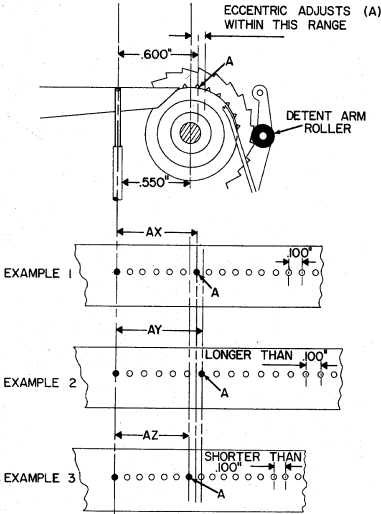

Figure 14
The proper setting gives a distance of .600" from the centerline of pin (A) to the centerline of the feed hole punch pin (Figure 14). Since there are five positions (or feed holes) between these points, the distance between each of the feed holes is .100".